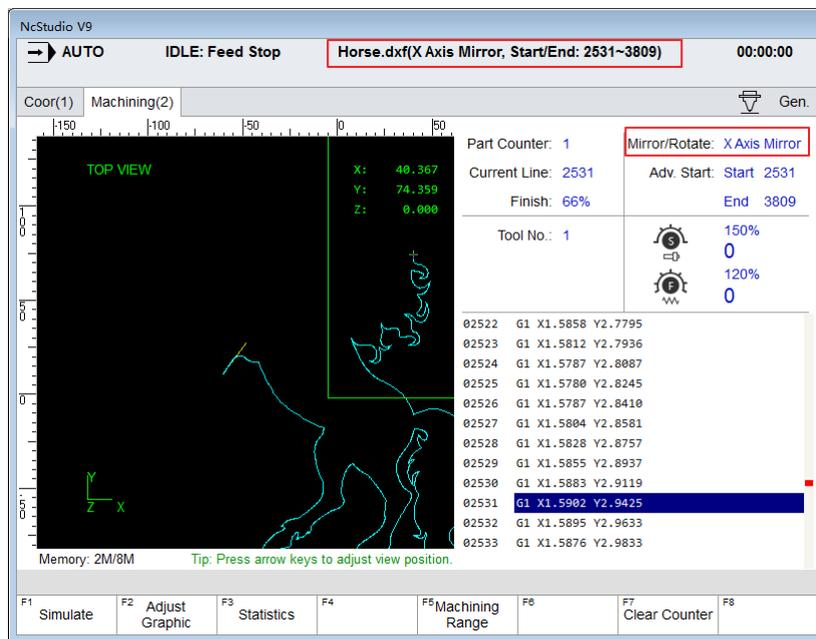

Fig. 3-95 Mirror and Rotation Interface
After setting mirror and rotate information, you can check the information in the file names in all interfaces and in interface 「Machining (2)」, as shown in Fig. 3-95.